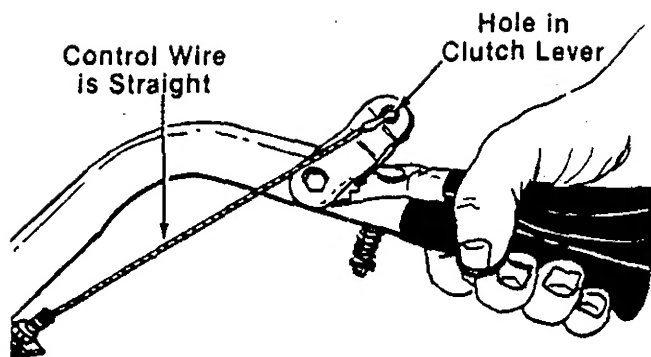

FIGURE 10.
3. With the clutch lever released (in the "up" position), adjust the bottom nut at the cable bracket so there is only a slight amount of slack in the control wire. Tighten the upper nut against the bracket. Squeeze the clutch lever against the handle. The control wire should now be straight. See figure 10.